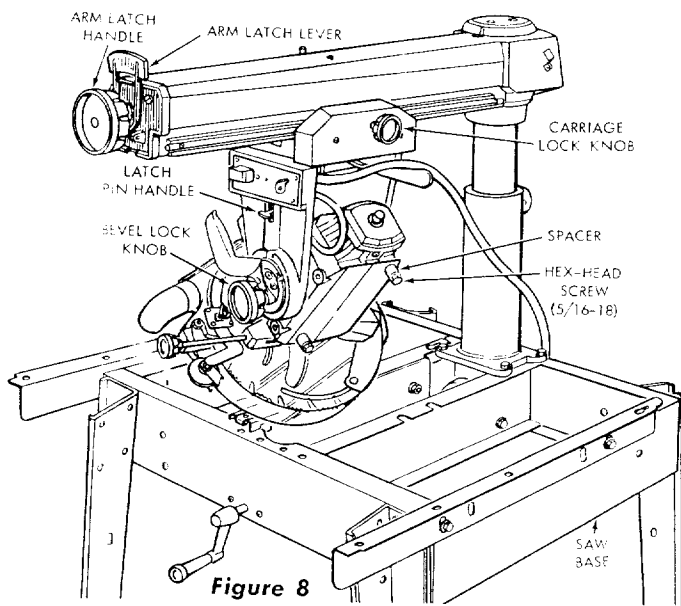

Figure 8
- a. Tighten the carriage lock knob. (See figure 8.)
- d. Tilt the motor to the left, as shown in figure 8. The latch pin will drop into a notch when the motor and carriage assembly are rotated to the 45° position.
- e. Remove and discard two 5/16-inch, hex-head screws and shipping spacers. (See figure 8.)